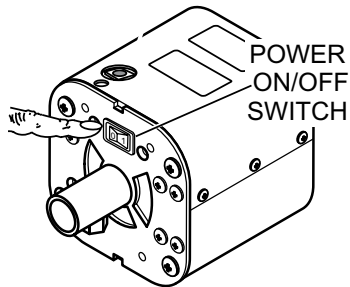

Figure 16. ON/OFF Switch
1. Before applying power, make sure that the Power **ON/OFF** switch (Figure 16) is in the OFF position.
4. Turn on the Power **ON/OFF** switch (Figure 16). The balloon will start to inflate and the lamp will turn on.